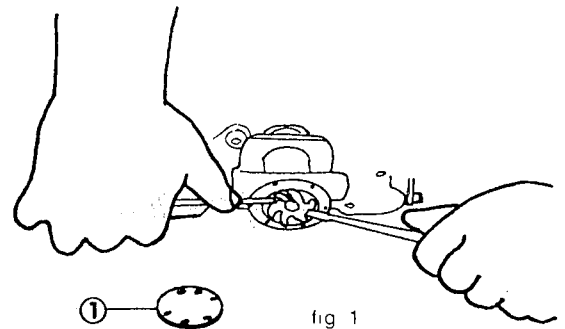

fig 1
IMPELLERWECHSEL - Fig. 1
- For torquing order, see fig. 1